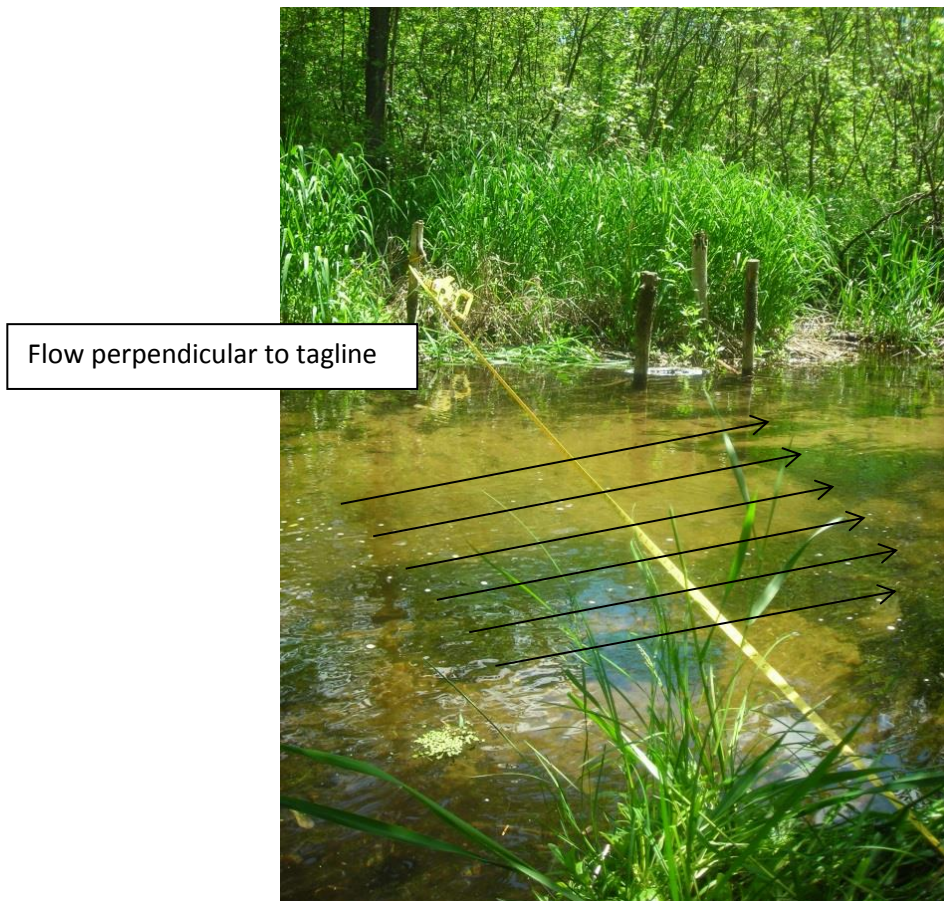

Figure 5. An example of a tagline above a stream cross section.
a. After you select the best location for a cross section set up the tagline directly above the cross section by stretching the tape measure across the stream (Figure 5). The tagline should be: